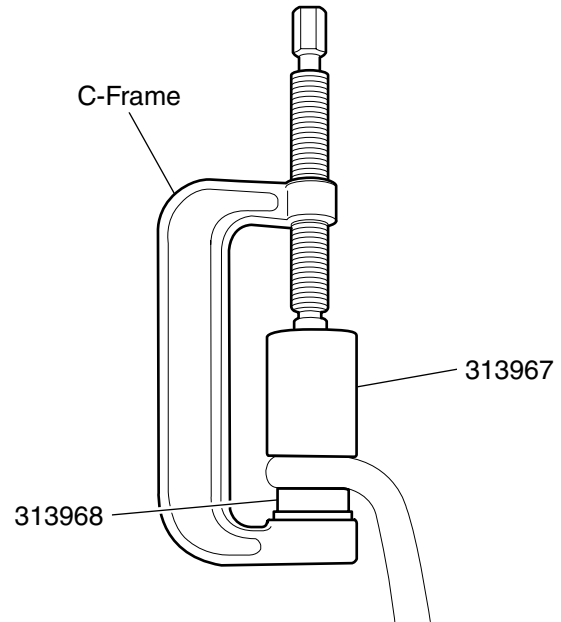

Figure 1. Ball Joint Removal
3. Position 313967 and the C-Frame as shown in Figure 1.